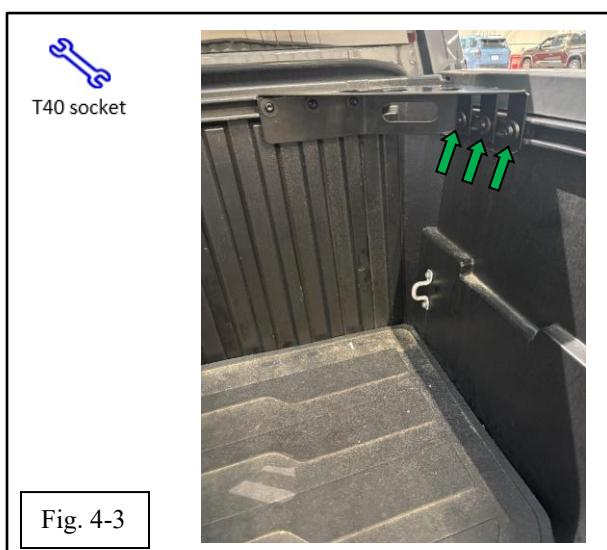

Fig. 4-3
- (c) Tighten the bolts attaching the V-Brace to the Bed Side Rails using a T40 socket (Fig. 4-3).